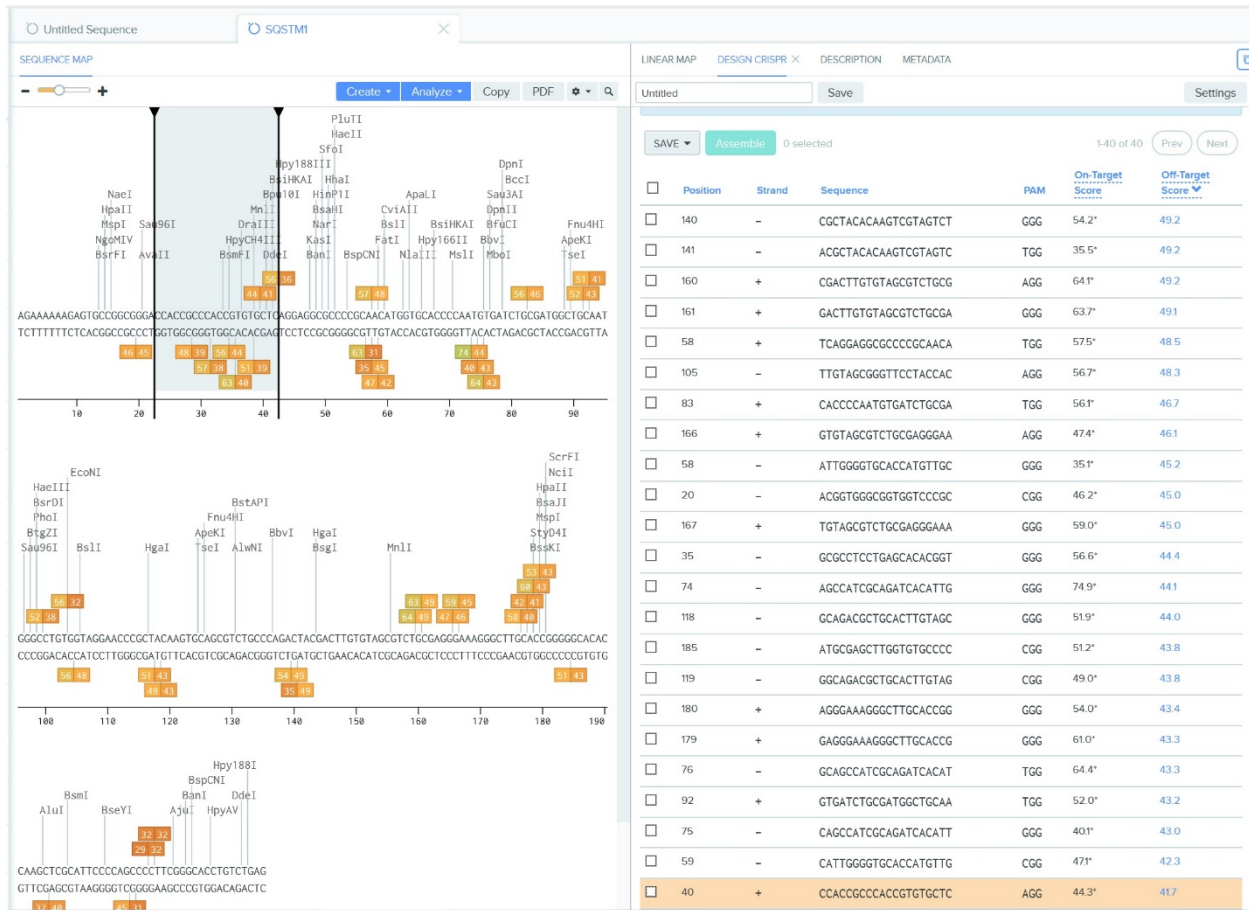

Figure 7: Selected gRNA target sequence shown at Benchling website.
- Benchling shows the gRNA target sequence below the template DNA sequence (see **Figure 7**). Considering the strand of the exon sequence, locate the gRNA target sequence. For instance, if the gRNA targets the minus strand and the sequence extracted from Ensembl is in the plus strand, then determine the reverse-complement.